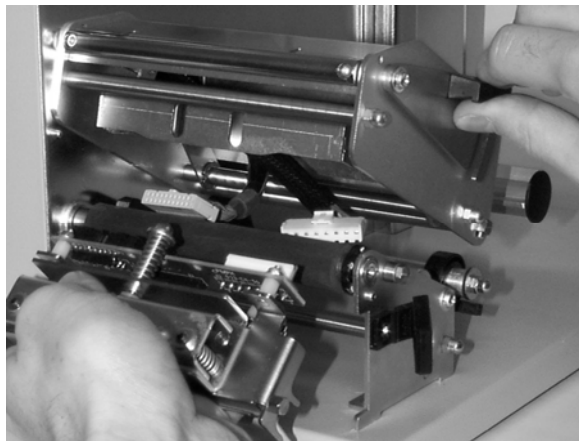

Fig. 5 – Lifting the print head group
- Lift the print head group with the corresponding lever (see Fig. 5).